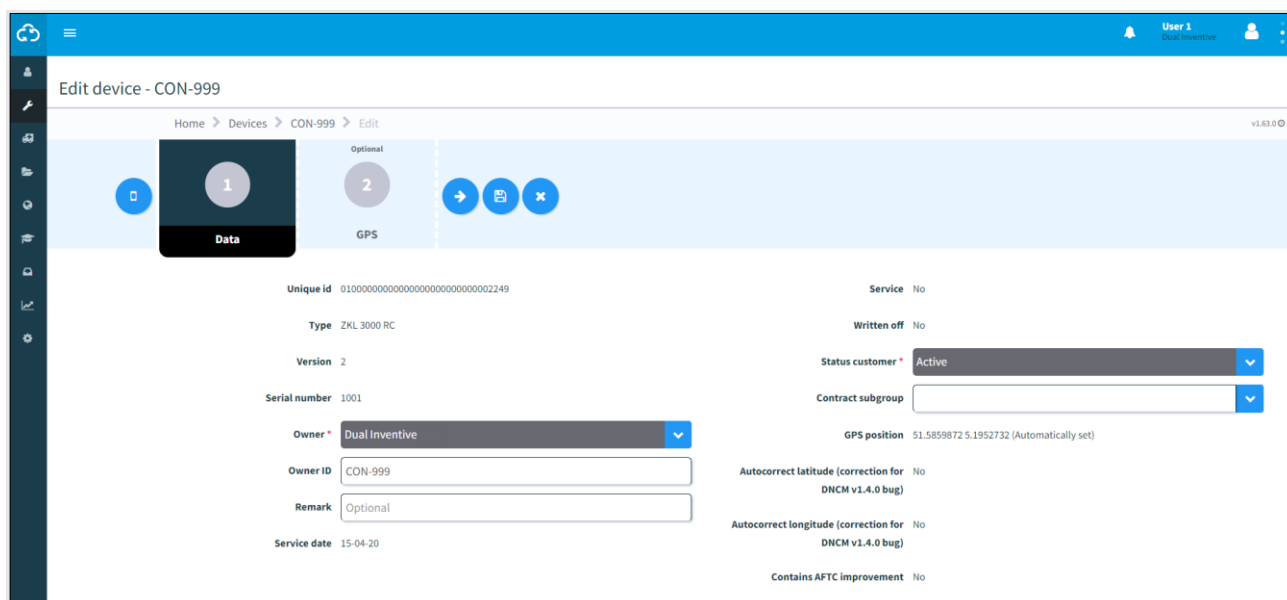

Figure 88 Edit device
- Step 2 - Display (Figure 88);